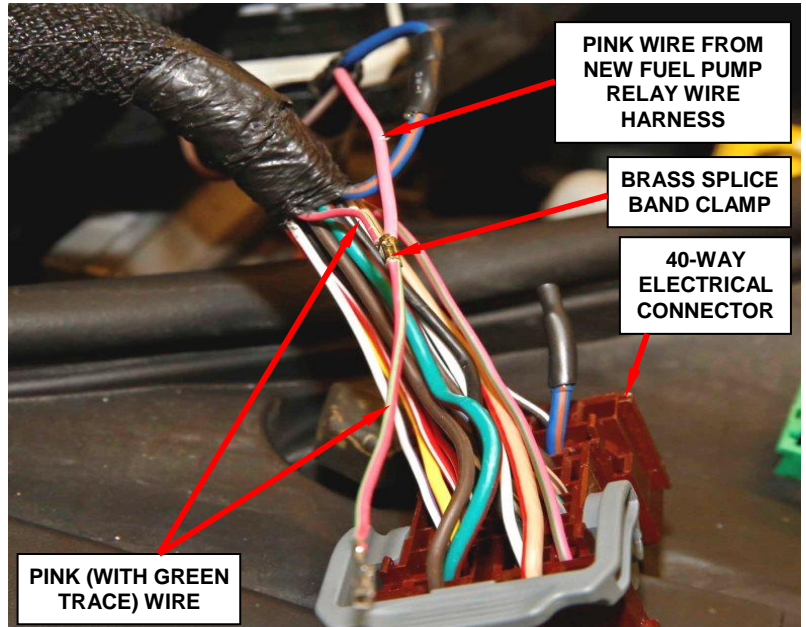

Figure 28 - Crimp and Solder Pink Wire to Pink (with Green Trace) Wire
- b. Wrap the pink wire from the new fuel pump relay wire harness around the pink (with green trace) wire at the location the insulation was removed (Figure 28).
- c. Using the supplied brass splice band clamp and crimp tool 10042, crimp the fuel pump wire harness pink wire to the pink (with a green trace) wire on the vehicle wire harness (Figure 28).